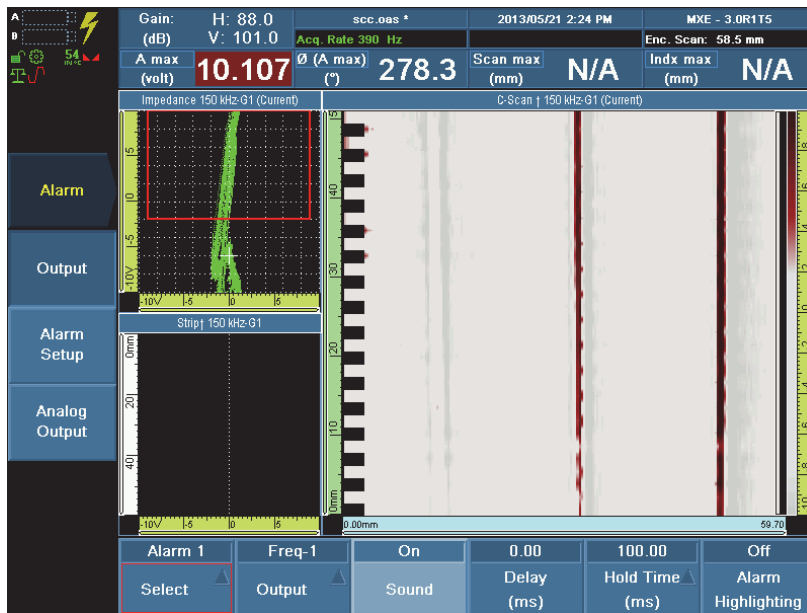

Figure 13-41 Setting an alarm for the accept/reject criteria
- Set an alarm. Select **Alarm > Alarm Setup** (see Figure 13-41 on page 280). For more information, see chapter 8 on page 125.